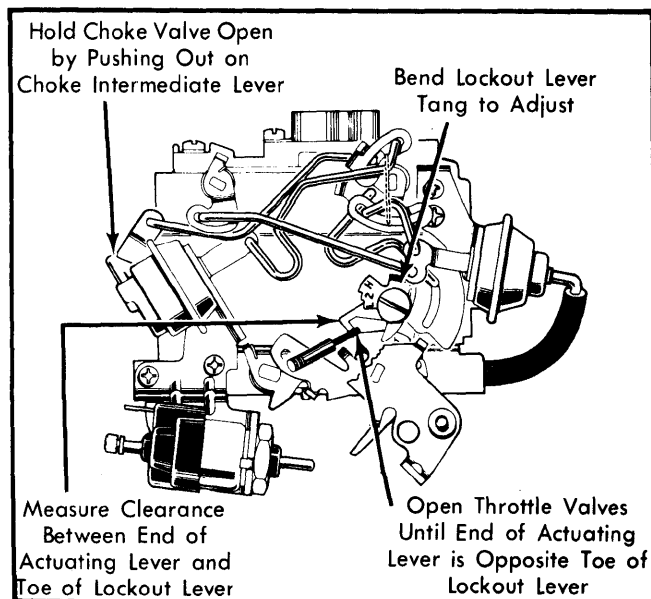

Fig. 10 Adjusting Secondary Throttle Lockout
- 1) Hold choke valve wide open by pushing out on choke intermediate lever. See Fig. 10.